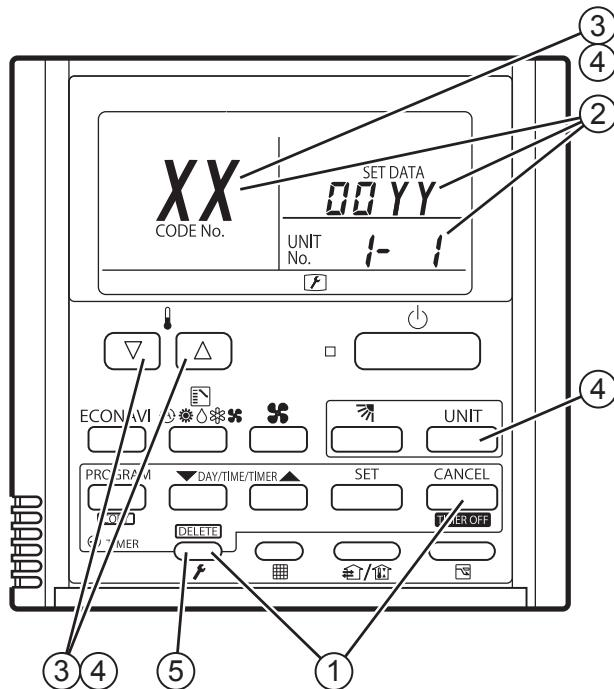

Fig. 3
- ① Press and hold the  and  buttons simultaneously for 4 seconds or longer.
- ② The unit No. "X-X" (main unit No.), item code "XX" (sensor address), and servicing monitor "00 YY" (sensor temperature) are displayed on the remote controller LCD display. (See Fig. 3 at right.)
- ③ Press the temperature setting  /  buttons and select the item code to the address of the sensor to monitor.
- ④ If group control is in effect, press the  button to select the unit to monitor.